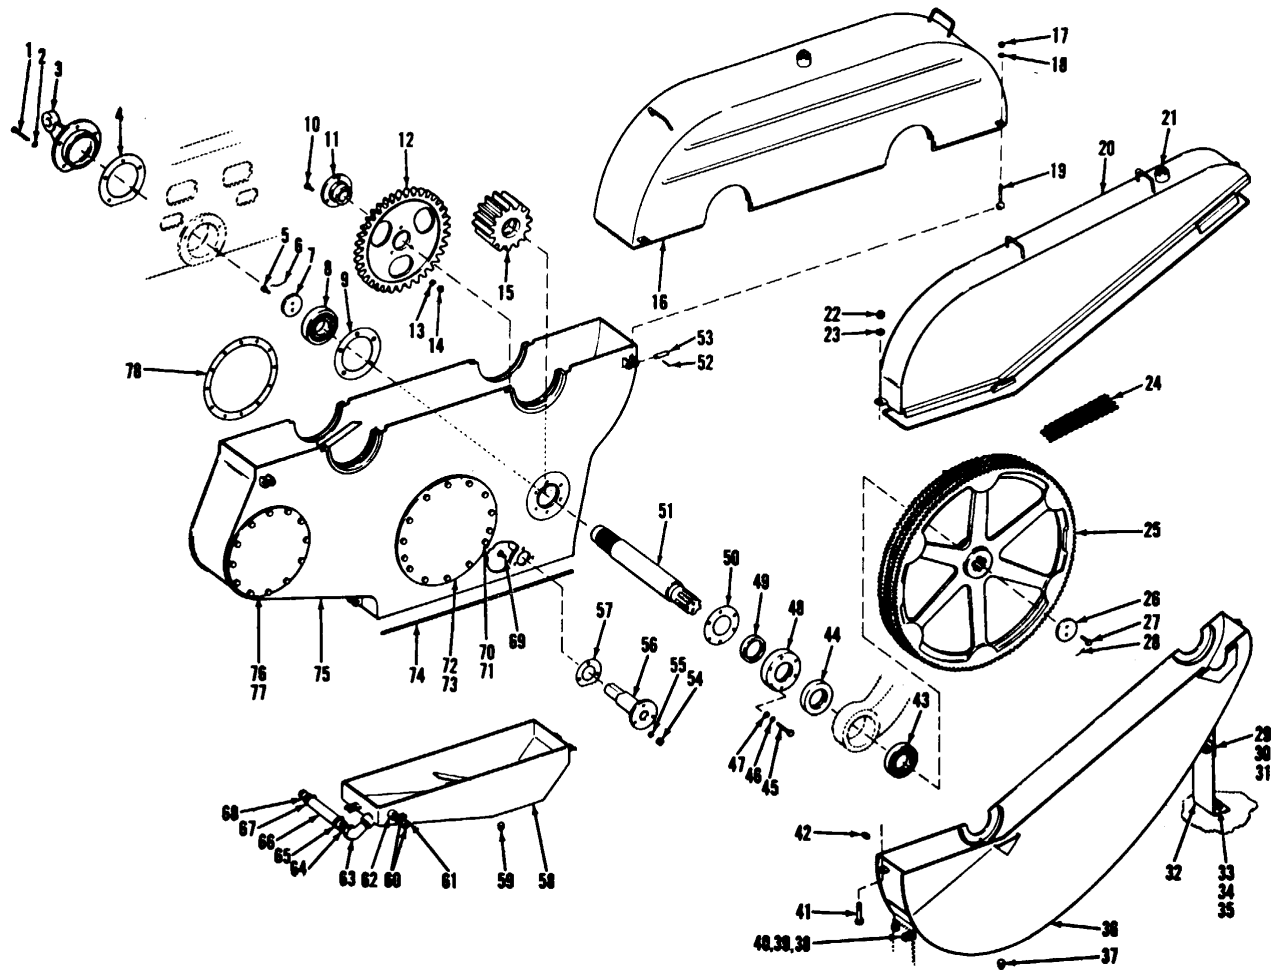

Figure 4-1. Transmission shaft, exploded view.
(1) Drain oil out of both transmission chain case and gear case. Remove chain case cover (20, fig. 4-1). Remove gasket seal (74) of revolving frame at left of chain case (36). Remove chain case.
(2) Remove transmission chain (24) by splitting at connecting link.
(3) Remove sump pan (58) from gear case (75).
(4) Remove hoist clutch yoke fulcrum pin (53) from right bearing cover on right side of gear case.
(5) Remove right bearing cover.